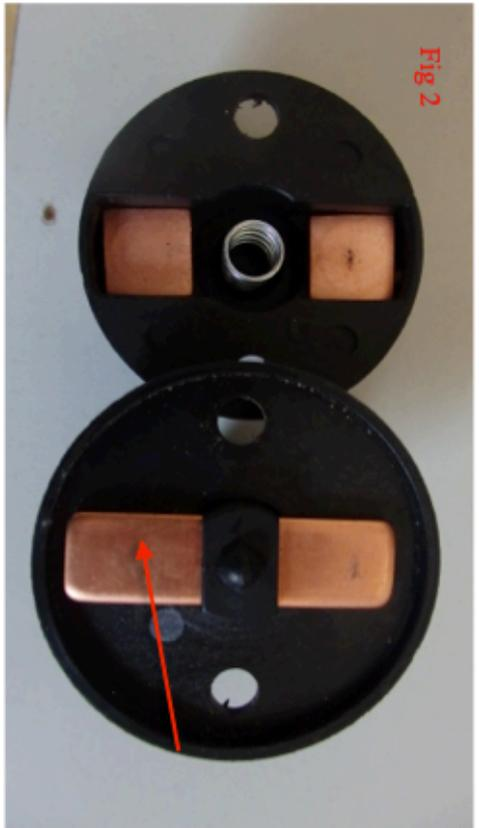
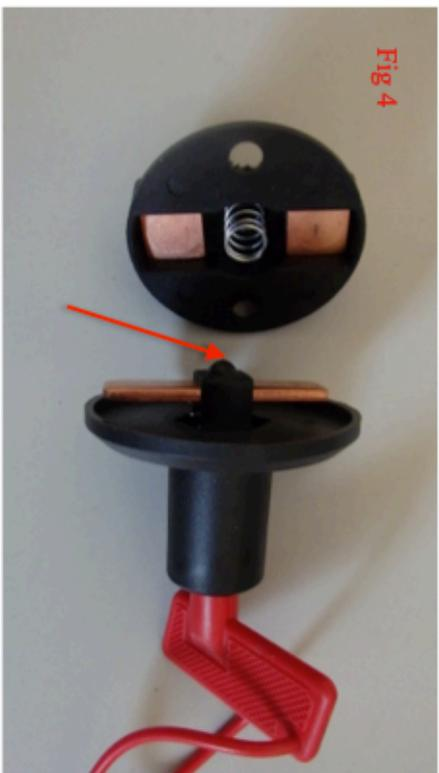

Fig 2
Fig 4
(1) The contacts as shown in the figures are not in any way corroded – in fact they look a bit too clean to be a moderate to high current switch ! Fig 2 shows evidence of contact touching on the upper contacts. Signs of good contact are not readily visible.
(4) Fig 2 shows what may have been the problem. The upper contact is not central, arrow points towards the longer side. Fig 4 the arrow points to the small moulded pin that holds the moving contact, through a small hole in the contact, in its fixed position. Clearly the moving contact while not being central is so close to the lower edge of the case that it may well snag and jam thus preventing closure. My feeling is this may be the main problem.